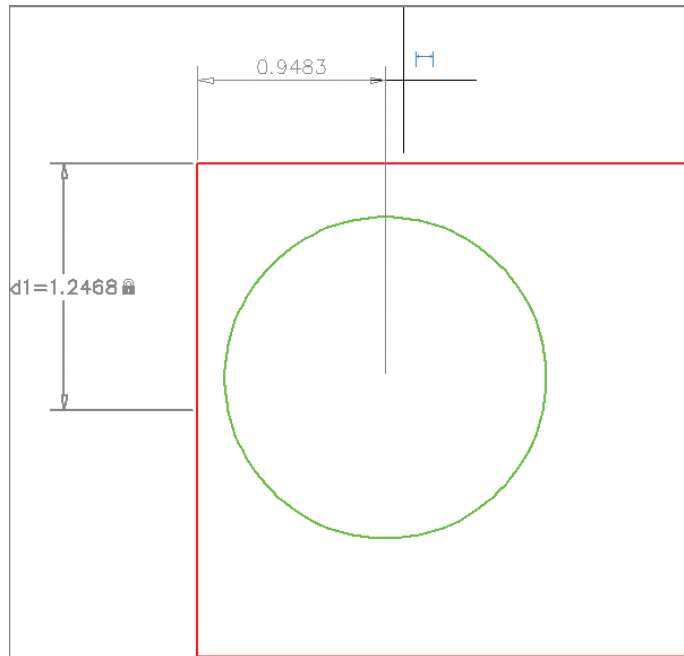

FIGURE 12.6 Creating a horizontal linear dimensional constraint
5. Click the Linear constraint tool in the Dimensional panel, and click the first constraint point in the upper-left corner of the rectangle. Click the circle to accept its center as the second constraint point. Move the cursor upward (see Figure 12.6), and click to place the horizontal dimension line above the rectangle. Move on to step 6 without pressing Enter.